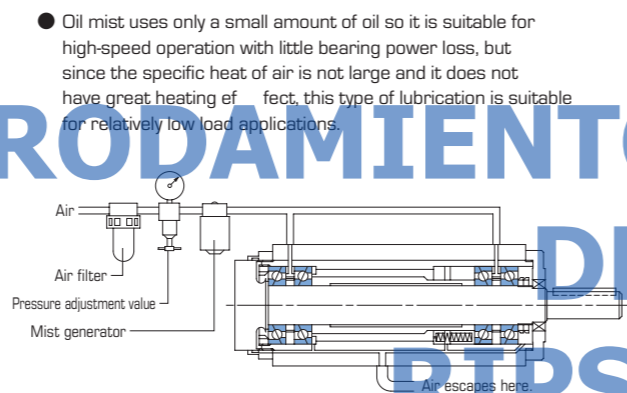

Figure 6.2 Example of Spindle Unit Using Vapor Lubrication
- With this lubrication method, the bearing is air cooled and a small amount of oils required for lubrication is vaporized and sprayed onto the bearing. Figure 6.2 shows an example of oil mist lubrication.